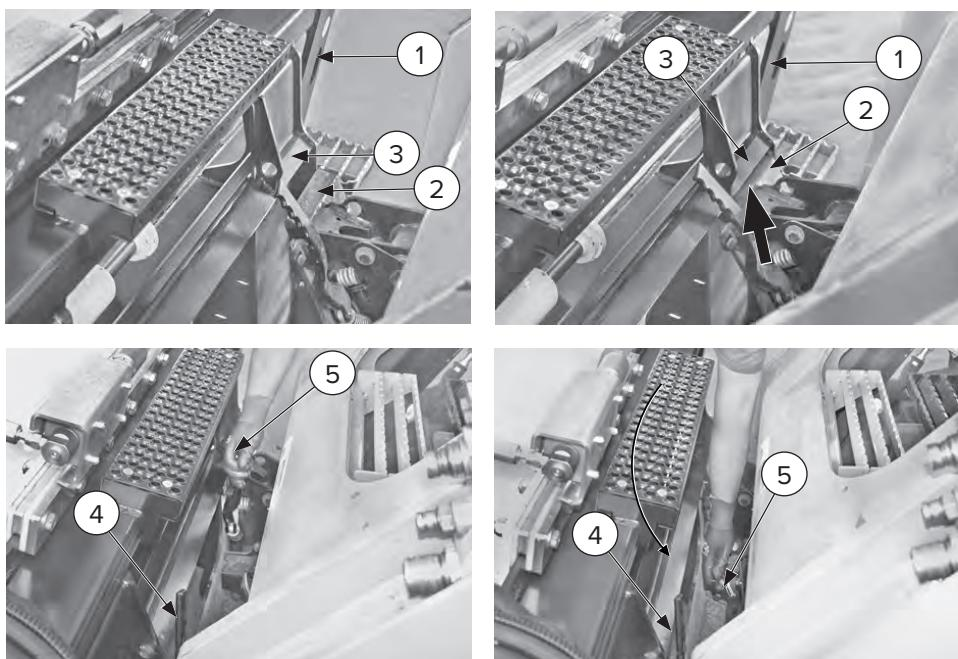

Figure 3
1. Position the attachment [Figure 3, Item 1] in the non-operative position and with its skid shoes on flat, compact ground and away from ditches, fuel stores, electrical substations, or any other hazard risk.